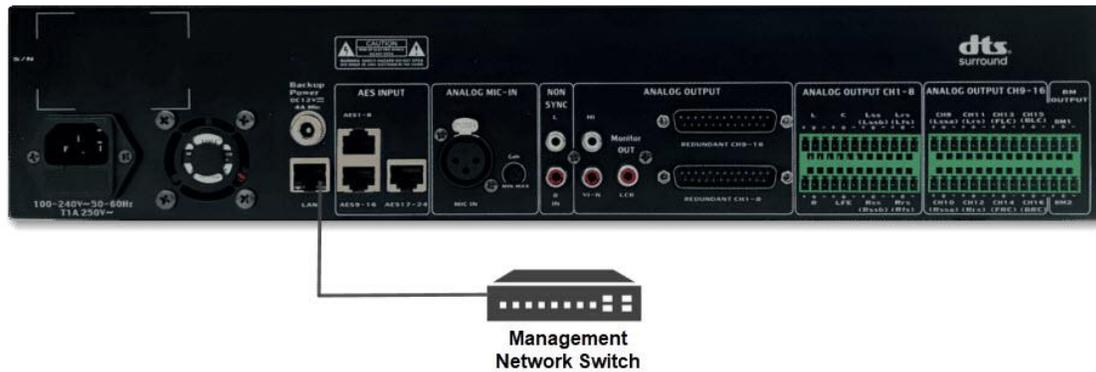

Figure 6: Connect AIB-3000 to
Connect the **LAN** port [③ @ Rear Panel] of the AIB-3000 to the Management Network switch of the cinema using CAT5e (or greater) Ethernet cable, as shown in **Figure 6**. It is also recommended to have a 1 Gbps (1,000 Mbps) network connection.